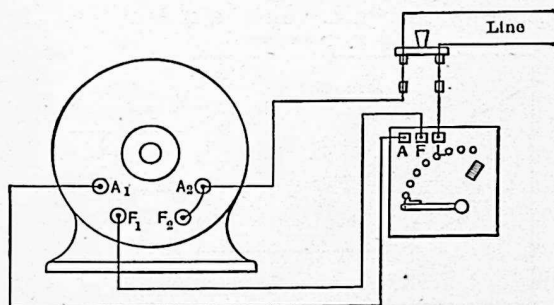

FIG. 145. Diagram of connections of shunt motor and 3-point starting box.
Note in Fig. 145 how the same scheme is carried out.
**Prob. 17.** Draw the inside connections of the box in Fig. 145.